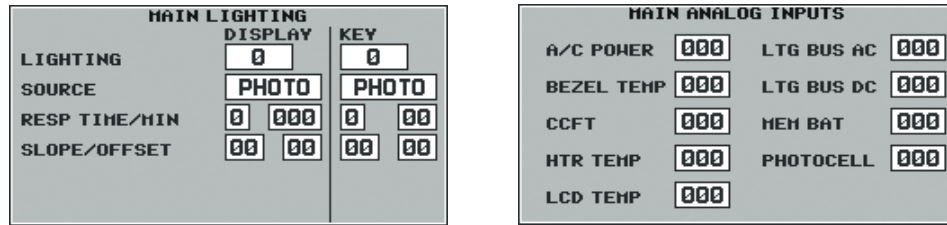

Figure 5-7. Main Lighting and Main Analog Test Pages
2. Turn the small right knob (CRSR) until you see the GPS Test Page (Figure 5-7).